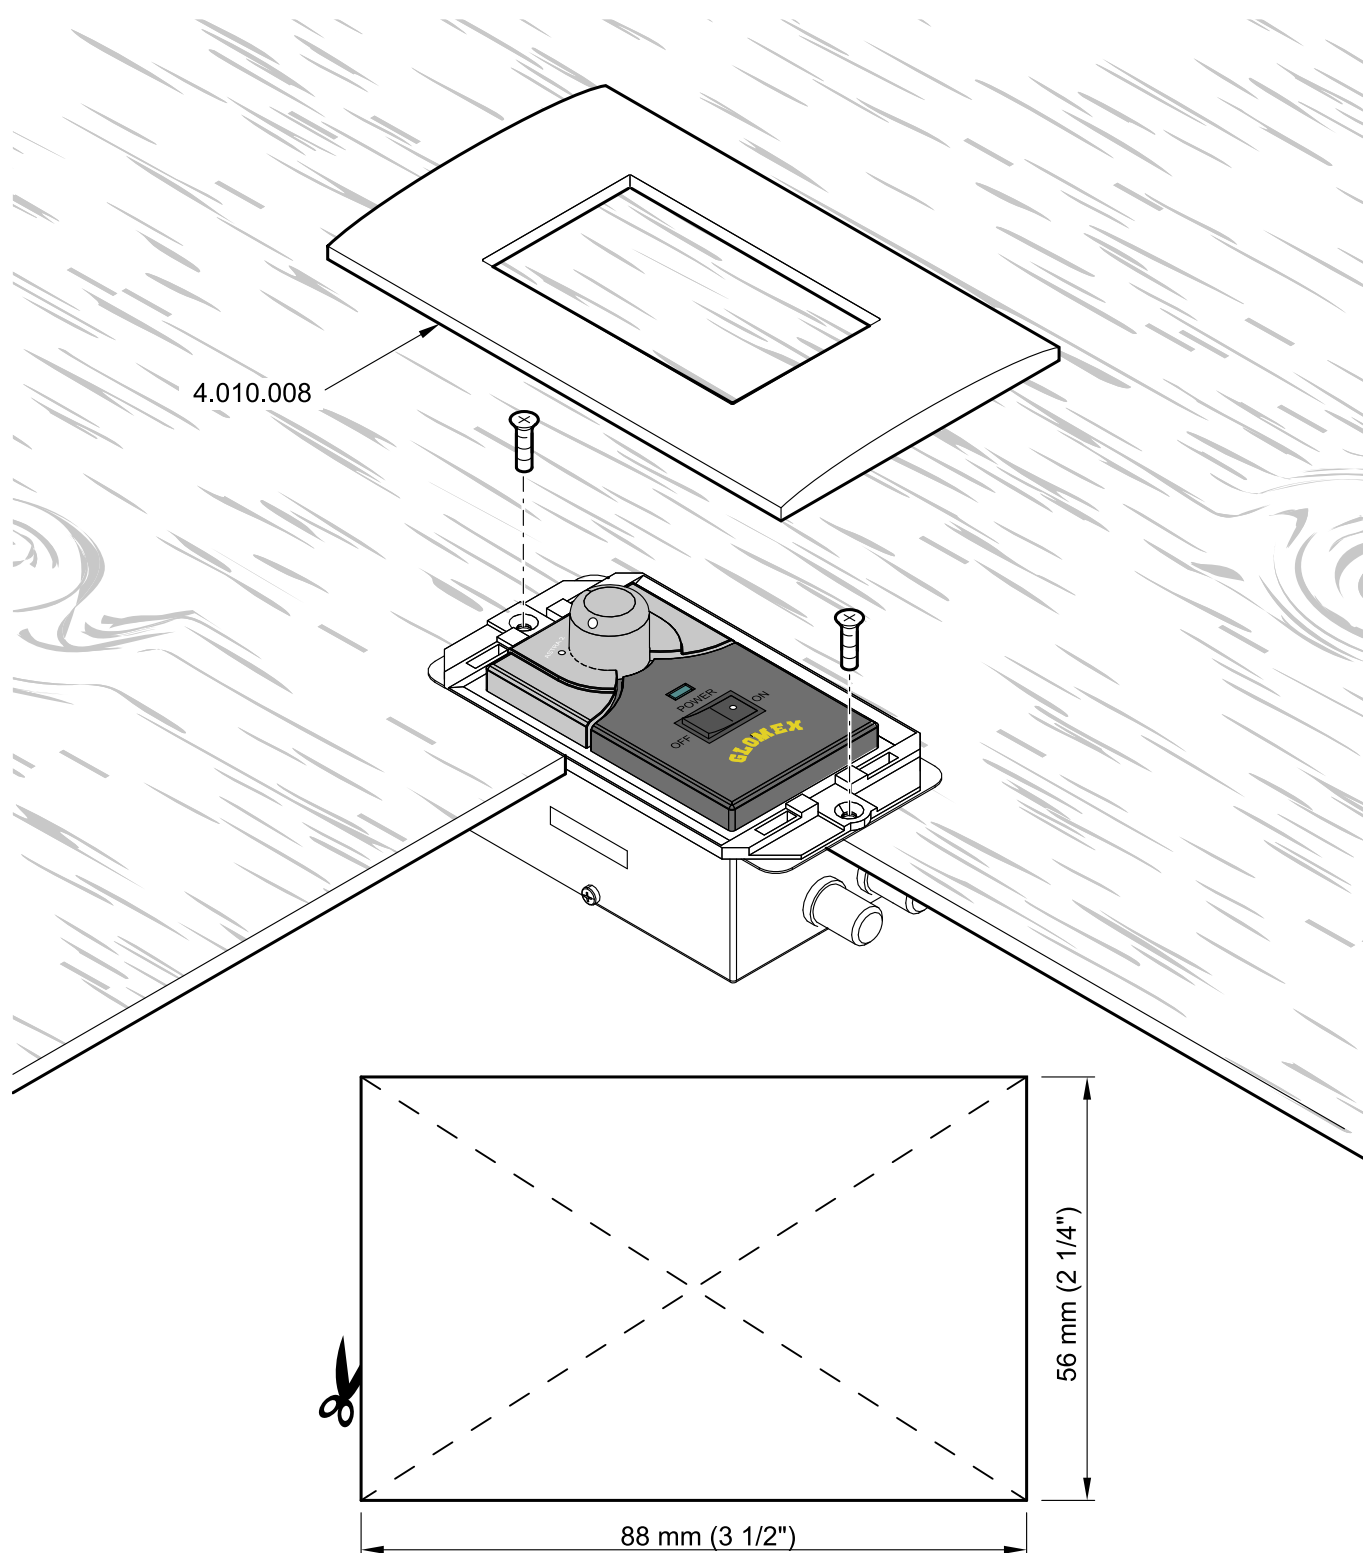

Fig. 16
4. Build in the control unit by using the GLOMEX accessory (code 4.010.0008) by boring a hole with a reciprocating saw and using the drill with 2.5 mm tip (use the cutting template in Fig. 16 for correct dimensions).